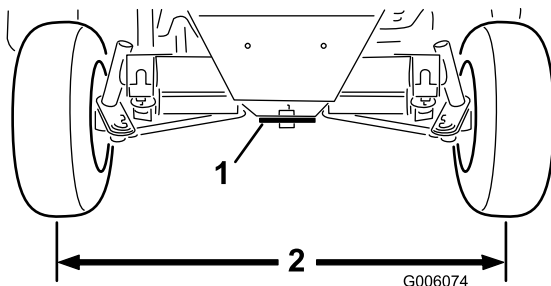

Figure 57
2. Loosen the jam nuts on both tie rods. Adjust both tie rods until center-to-center distance at front and back of rear wheels is the same (Figure 57).